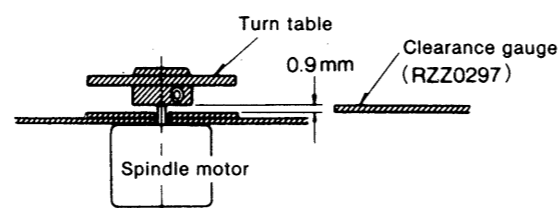

Fig. 2
1. Insert the 0.9mm clearance gauge (RZZ0297) between the turntable and the loading base. (Refer to Fig. 2).
- Note:** For the connection of oscilloscope's CH. 1 probe to servo P.C.B. on foil side, refer to fig. 2.